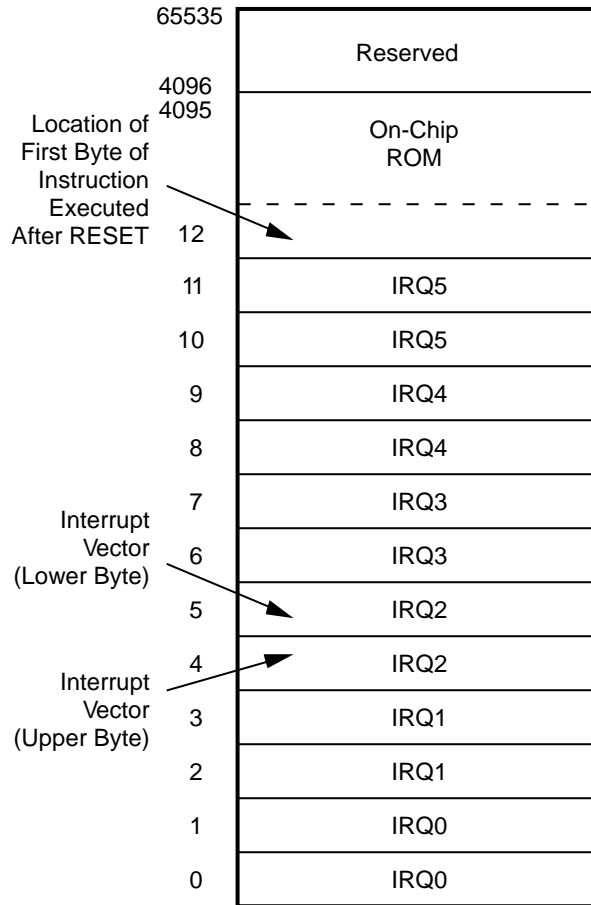

Figure 9. Program Memory Map
**Program Memory.** The 16-bit program counter addresses 4 Kbytes of program memory space at internal locations (Figure 9).